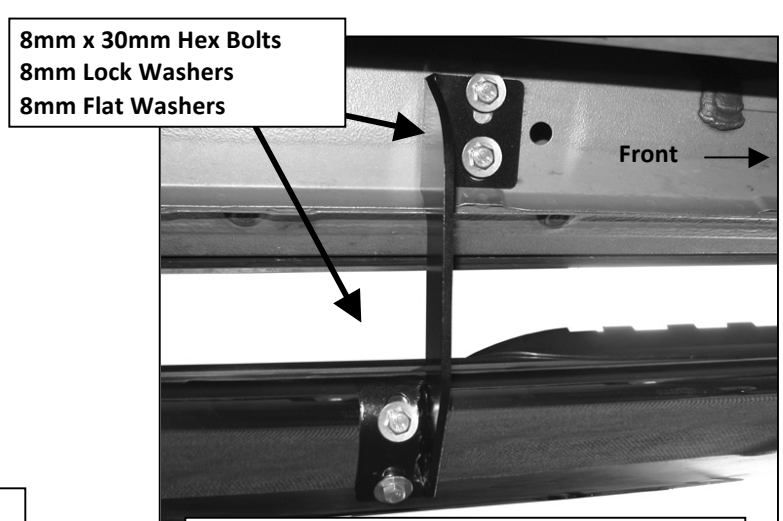

**Fig 2**
- Starting on the driver side front of the vehicle, remove the existing (2) factory bolts, (or plastic plugs), on the side panel located by the front tire opening, **(Figure 1)**. Attach the front Mounting Bracket to the vehicle using the included (2) 8mm x 30mm Hex Bolts, (2) 8mm Lock Washers and (2) 8mm Flat Washers, **(Figure 2)**. Do not tighten hardware at this time.
5. Carefully place the Driver/Left Sidebar onto the (4) Brackets. Align the threaded holes in the bottom of the Sidebar with the slots in the Mounting Brackets. Attach the Sidebar to the Mounting Brackets with the included (8) 8mm x 30mm Hex Bolts, (8) 8mm Lock Washers and (8) 8mm Flat Washers, **(Figures 2, 4 & 5)**. Do not tighten hardware at this time.